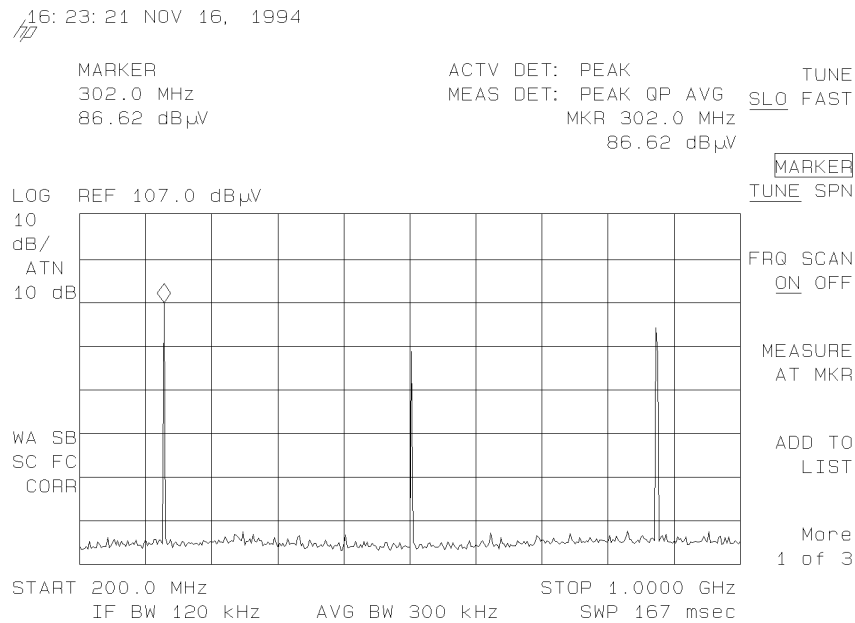

**Figure 1-3. Placing the Marker on a Signal**
4. Press **TEST**. **MARKER** is now displayed in the active function block, and the **MARKER** softkey label appears in inverse video to indicate that the marker is the active function. Place the marker on a signal by pressing the down **▼** keys. Refer to Figure 1-3.